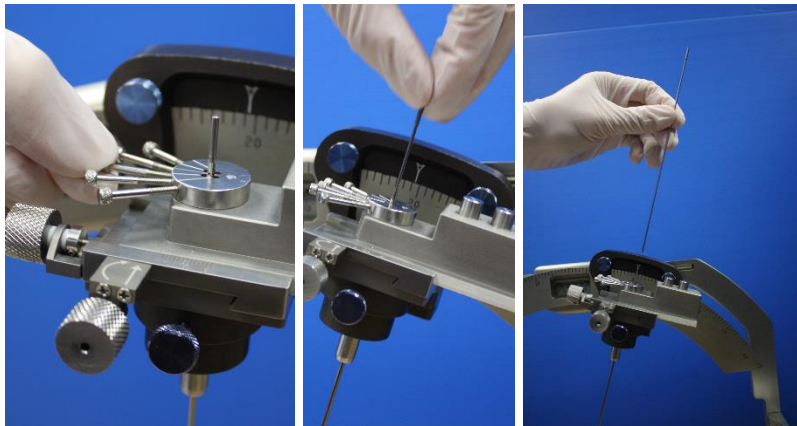

Figure 40: Tightening the Holding Screw and removing stylet
4. Tighten the Bengun screw (*Figure 40*), and then remove the stylet from the cannula.